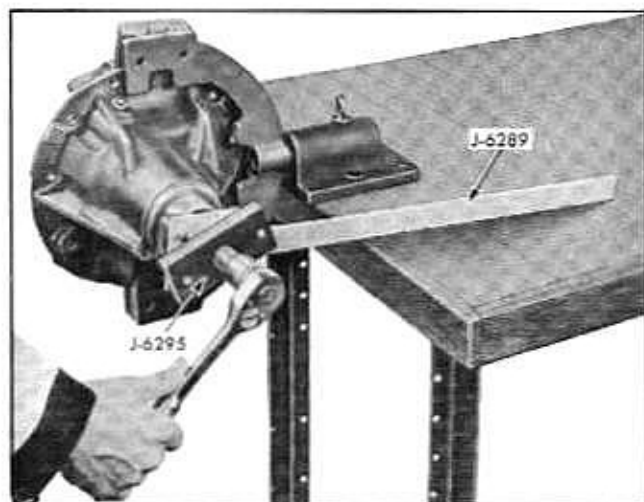

Fig. 4-28 Removing Companion Flange With Puller J-962-A
6. Remove companion flange using Puller J-6295 and Holding Tool J-6289 (Fig. 4-28).